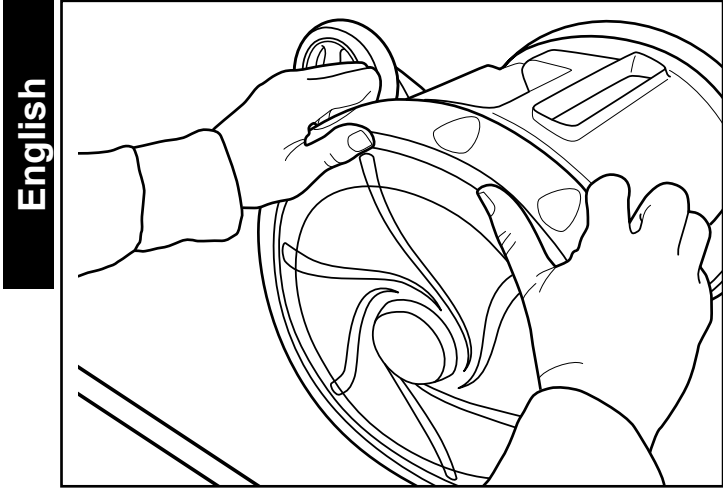

Figure 17. Pull on Inside of Old Tyre
1. Using your fingers, pull on the inside of the old tyre to remove the tyre lip from the wheel. See Figure 17.